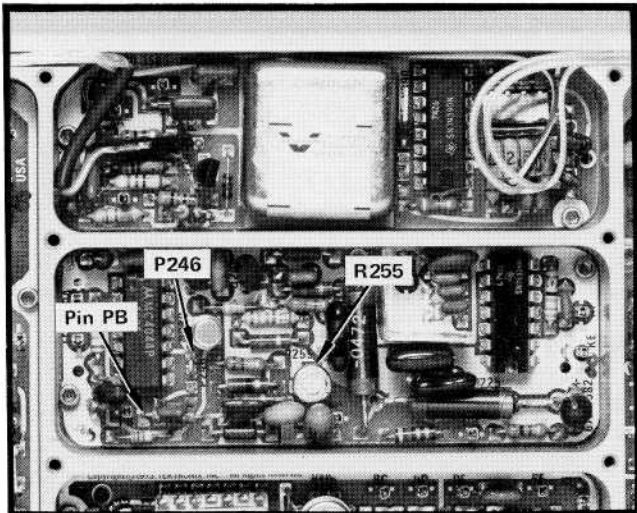
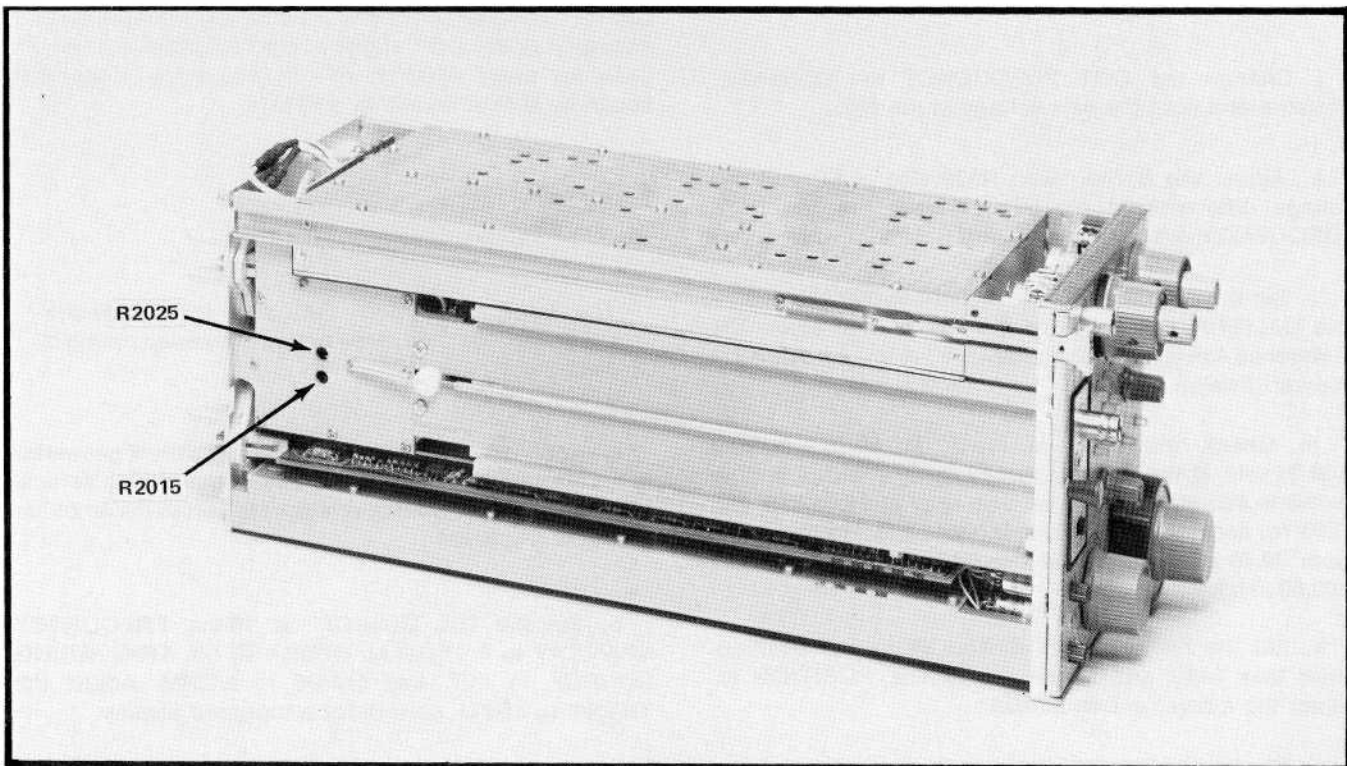
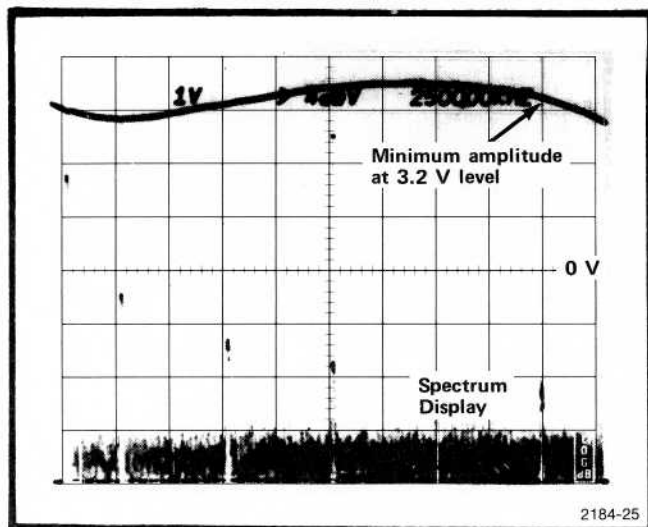

Fig. 4-9. Location of 1st LO Phase Lock test points and adjustments.
Fig. 4-10. Location of 1st LO adjustments.
Fig. 4-11. Typical response at pin PB when adjusting Sweep Offset and Gain.
d. Connect P246 (Fig. 4-9) from pin 2 to 3 then use the dc coupled amplifier to measure the dc voltage on P246. Adjust R255 (Fig. 4-9) for a voltage of 1.4 V. Reconnect jumper P246 from pin 1 to 2.
e. Connect the Input of the vertical amplifier through a test probe to pin PB (Fig. 4-9) on the 1st LO Lock board. With the FREQUENCY SPAN/DIV at MAX position, adjust the Sweep Offset, with R2015 (Fig. 4-10), for a voltage of 3.2 V at pin PB.
f. Now adjust the Sweep Gain, with R2025 (Fig. 4-10), for minimum signal amplitude as illustrated in Fig. 4-11. Repeat the Sweep Offset and Sweep Gain adjustments until minimum peak-to-peak signal amplitude is obtained with a dc level, at pin PB, of 3.2 V.
*The 1st LO frequency must be nearly correct to obtain the proper waveform from the 1st LO lock. If this waveform cannot be obtained, set the FREQUENCY SPAN/DIV to MAX, Display Mode to 10 dB/DIV, and RESOLUTION to 30 kHz. Note the position of the 0 Hz start spur. Now, adjust R2015 and R2025 (Fig. 4-10) to position the 0 Hz start spur under the first graticule line. If the lock is working, there should be a slight hesitation as the 0 Hz start spur is tuned past the 1st graticule line. Once the 0 Hz start spur is in the correct position, a usable waveform should be obtained from the 1st LO lock.*